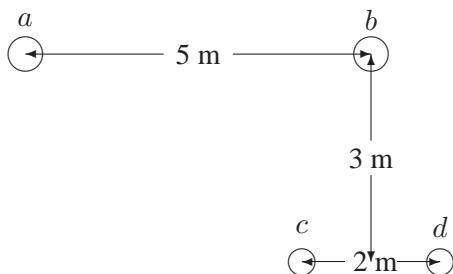

FIGURE 44
4.13. A 60-Hz, single-phase power line and a telephone line are parallel to each other as shown in Figure 44. The telephone line is symmetrically positioned directly below phase *b*. The power line carries an rms current of 226 A. Assume zero current flows in the ungrounded telephone wires. Find the magnitude of the voltage per Km induced in the telephone line.